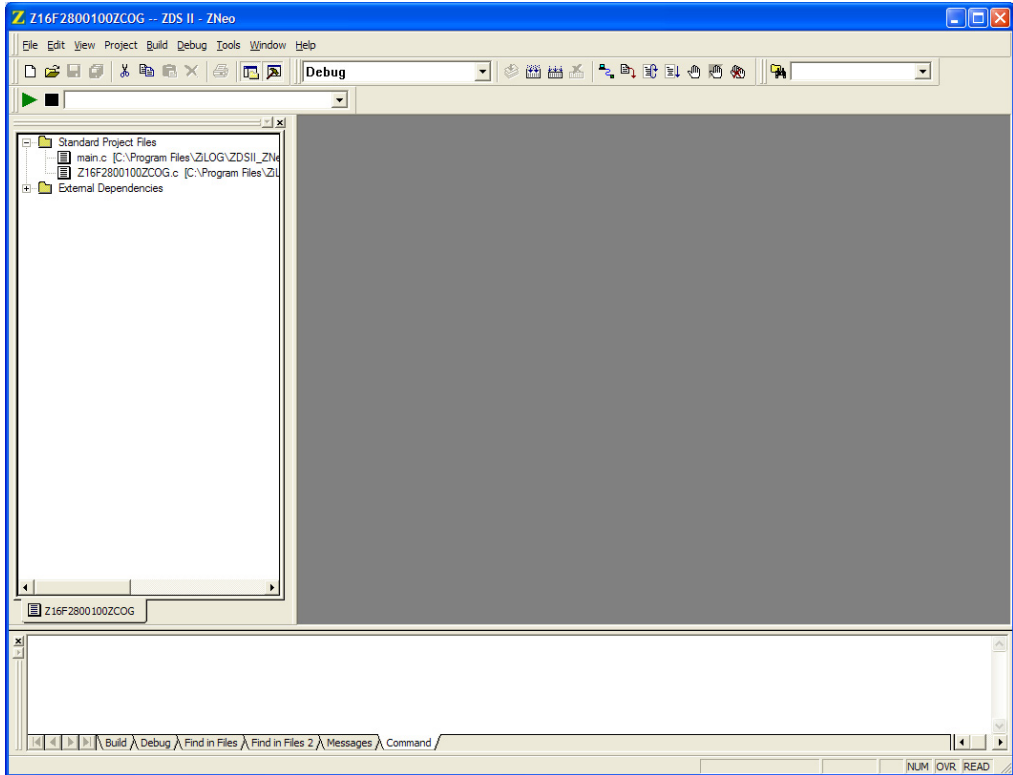

Figure 3. ZDS II Opening Screen
6. Select the `Z16F2800100ZCOG.zdsproj` file and click **Open**. The initial ZDS II program screen opens (see Figure 3 on page 10).